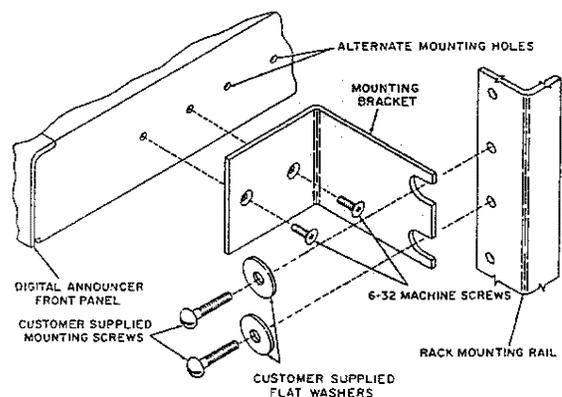

Fig. 7 - Rack Mounting
5.01 If the unit is to be installed into an equipment enclosure by itself or with other equipment, mounting brackets must first be attached to the chassis as shown in figure 7.